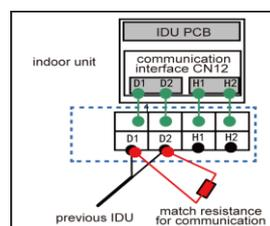

Fig 5.3.2
- (4) Fix the communication cable with clamp of electric box.
- (5) In order to ensure the reliability of communication between IDU and ODU and the communication among each IDU, add a matched resistance(supplied in a package before ex-factory) on the wiring board of the last indoor unit in a series connection. The matched resistance should be connected in parallel between terminal screw D1 and D2, as shown in Fig 5.3.2..